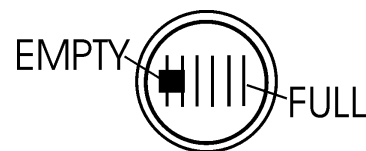

Figure 8. Fuel Gauge
3. Read the fuel gauge located on top of the fuel tank (Figure 8) to determine if the fuel level is low. If fuel is low, replenish with clean unleaded fuel.